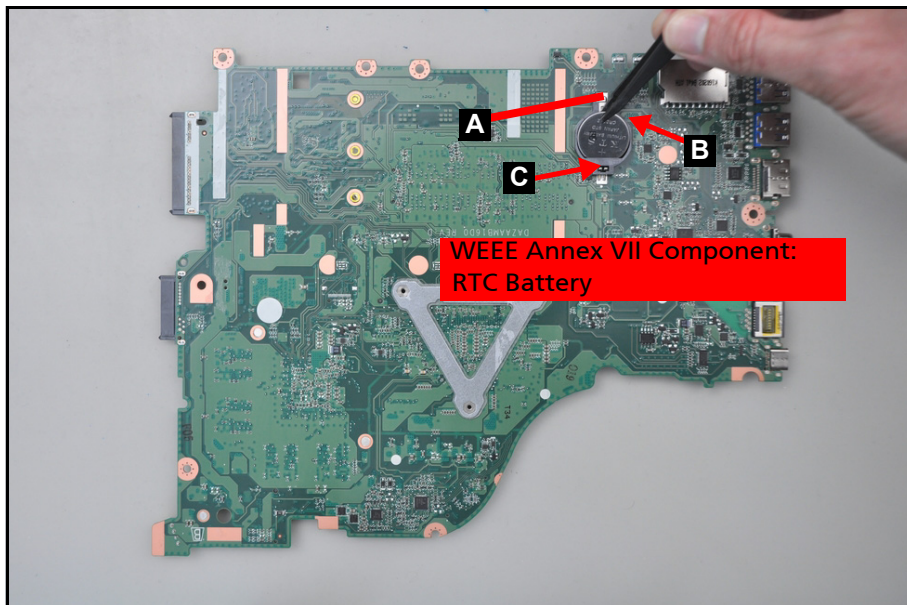

Figure 3-41. RTC Battery Removal
1. Find the RTC battery (A) on the mainboard (Figure 3-41).
2. Using a plastic tweezer, push the RTC battery through the gap (B) in the mainboard connector (C) to release the battery (Figure 3-41).
3. Remove the RTC battery (A) from the mainboard (Figure 3-41).